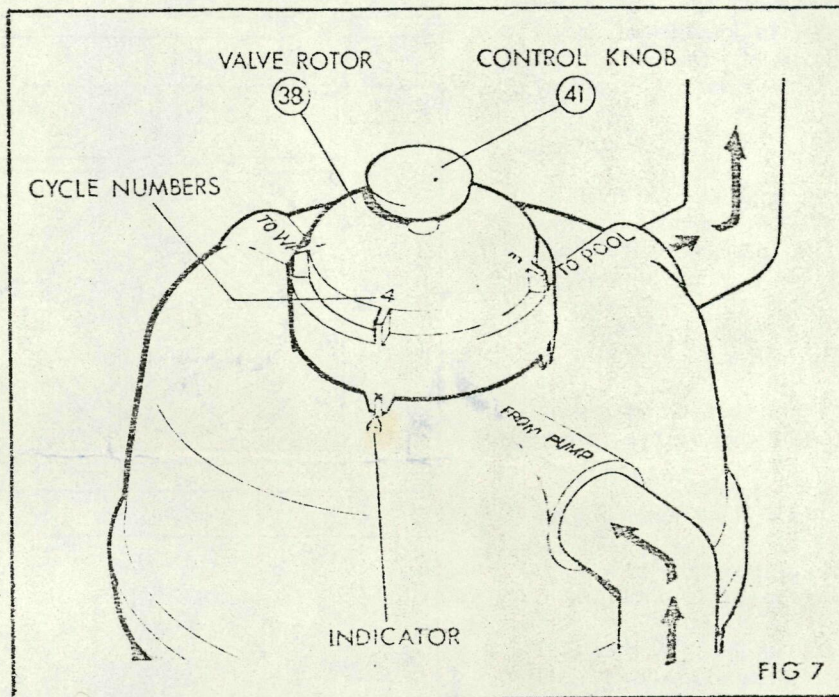

FIG 7
Operation of backwash valve — Ref. Fig. 7.
4. Care must be taken that the valve rotor guiding lugs (Fig. 7) are in correct position before tightening.